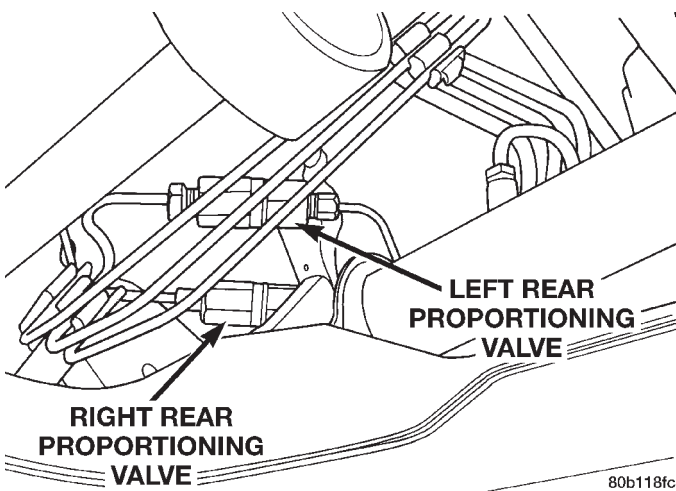

Fig. 80 Non-ABS Brake Proportioning Valve Location
- (1) Remove hydraulic brake line (Fig. 80) from proportioning valve controlling the rear wheel of the vehicle which has premature wheel skid.
- (2) Then remove the proportioning valve from the rear brake line.
- (1) Install proportioning valve in rear brake line and hand tighten both tube nuts until they are fully seated in proportioning valve (Fig. 80).
- (2) Tighten both brake line tube nuts at the proportioning valve to a torque of 17 N·m (145 in. lbs.).
- (3) Bleed the affected brake line. Refer to **BASE BRAKE BLEEDING** in **SERVICE PROCEDURES** in this section.